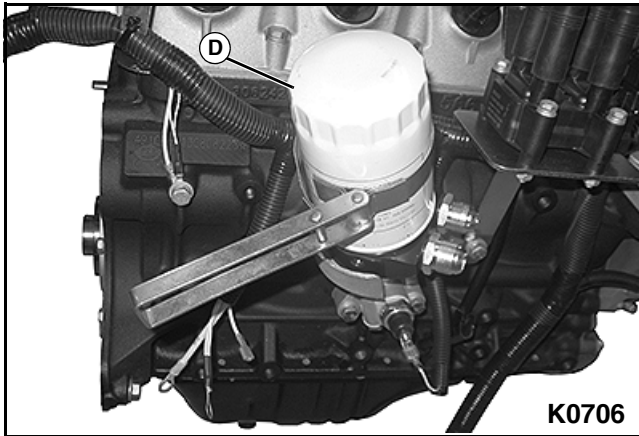

Figure 5-15
4. Using an oil filter wrench, remove the old oil filter (D). **See Figure 5-15.**